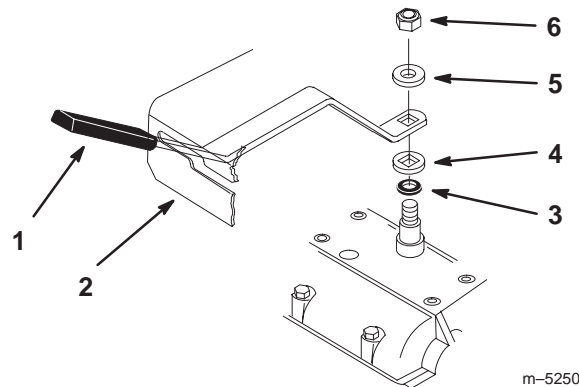

Figure 4
2. Slide shift lever through control panel and align mounting hole in lever with square on transmission shaft. Secure lever to transmission with previously removed spring washer and locknut (Fig. 4).
3. Install the spring washer, dish down, and locknut (Fig. 4).